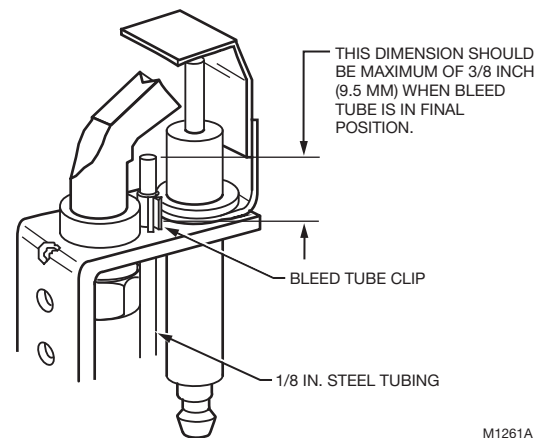

Fig. 16. Install bleed gas tube.
2. Push the clip into place. See Fig. 16.